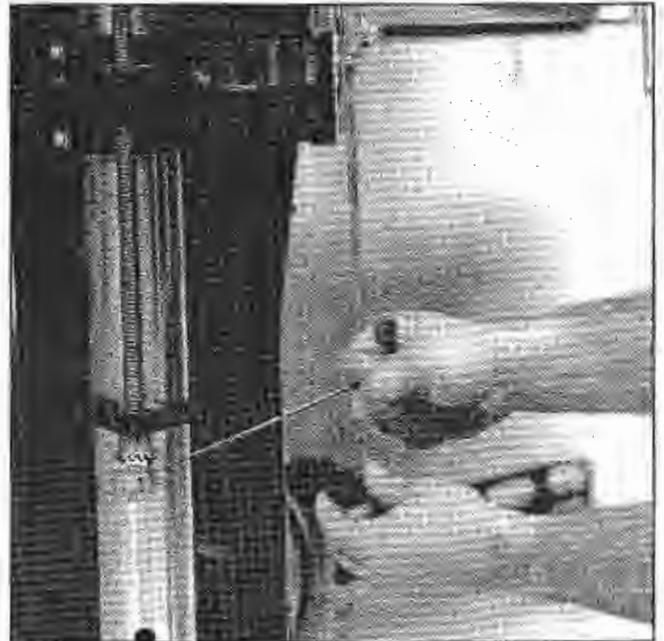
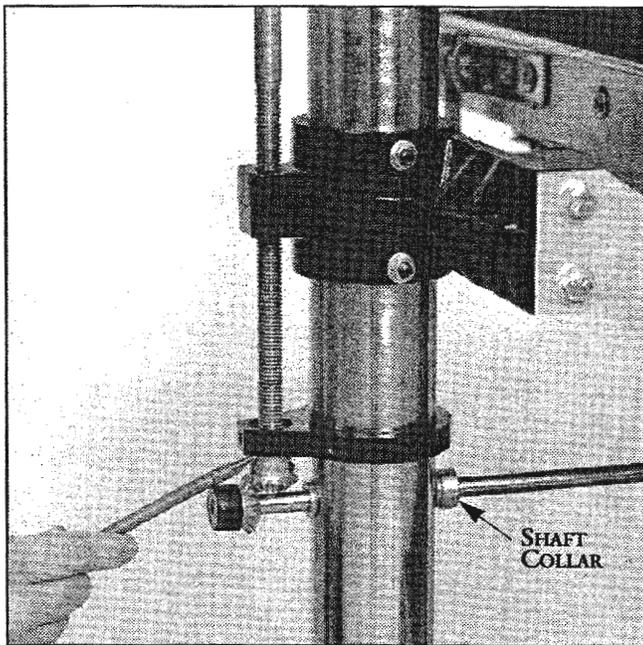

Fig. 20. Adjusting miter gears for proper mesh.
Fig. 21. Miter gear below adjusting screw support.
2. Lubricate thoroughly by applying penetrating lubricant to the table support castings where they contact the column tubes, and to all contact points of adjusting screws and cross bar (Fig. 20). Also apply oil or grease to the miter gears.
5. If the height adjustment mechanism feels rough, check the miter gear (Fig. 20) alignment. The miter gears can be adjusted on their shafts by loosening the set screws on the gears. Check and adjust so that the gear mesh is not too tight or too loose, and that the gear teeth align with the opposing gear. Note that the shaft collars located on the cross bar (Fig. 21) should be adjusted to control the lateral movement of the cross bar to maintain accurate miter gear alignment and mesh.
The mesh of the miter gears should be smooth and even. If not, adjust the gears for good mesh (Fig. 20). Measure the space between the miter gear and the adjusting screw support that holds the height adjusting screw in place (Fig. 21). The distance should be $1/32$ " or less. If there is exces-